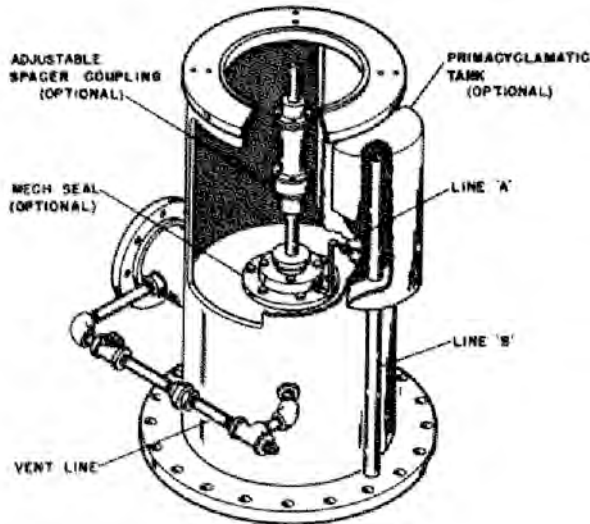

Figure 6: High profile head
When provided, install tubing connecting primacyclamatic tank to mechanical seal. (See Figure 6: High profile head on page 21)
1. Fluid under discharge pressure flows through bearing clearance and lubricates seal face, or stuffing box. Fluid bypasses through tapped hole in seal gland to line "A". (See Figure 6: High profile head on page 21)
(See Figure 6: High profile head on page 21) The high profile head may be used in conjunction with a hollow shaft driver, coupling, stuffing box, mechanical seal, or primacyclamatic tank. Primacyclamatic tank supplies temporary lubrication to mechanical seal or stuffing box during priming and stripping operations.